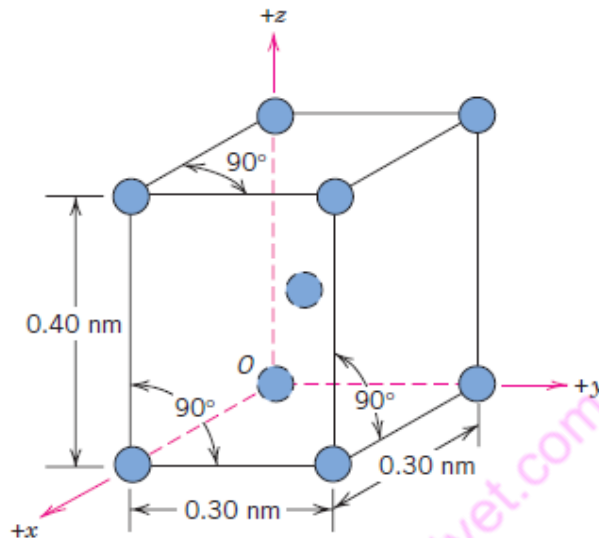

Figure 1
2. Figure 1 below is a unit cell for a hypothetical metal. Use it to answer the following questions. [2 Marks]